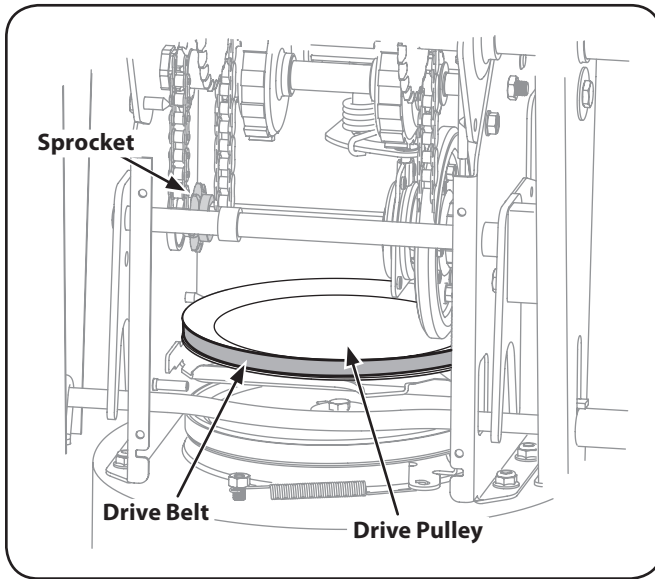

Figure 7-7
- Slip the drive belt off the pulley and between friction wheel and drive pulley. See Figure 7-7.
NOTE: Make sure to install the gear shaft through the sprocket shown in Figure 7-7. If the sprocket fell from the snow thrower while removing the hex shaft, place the sprocket on the hex shaft. Position the hex hub of the sprocket toward the friction wheel when sliding the sprocket onto the shaft. See Figure 7-7.